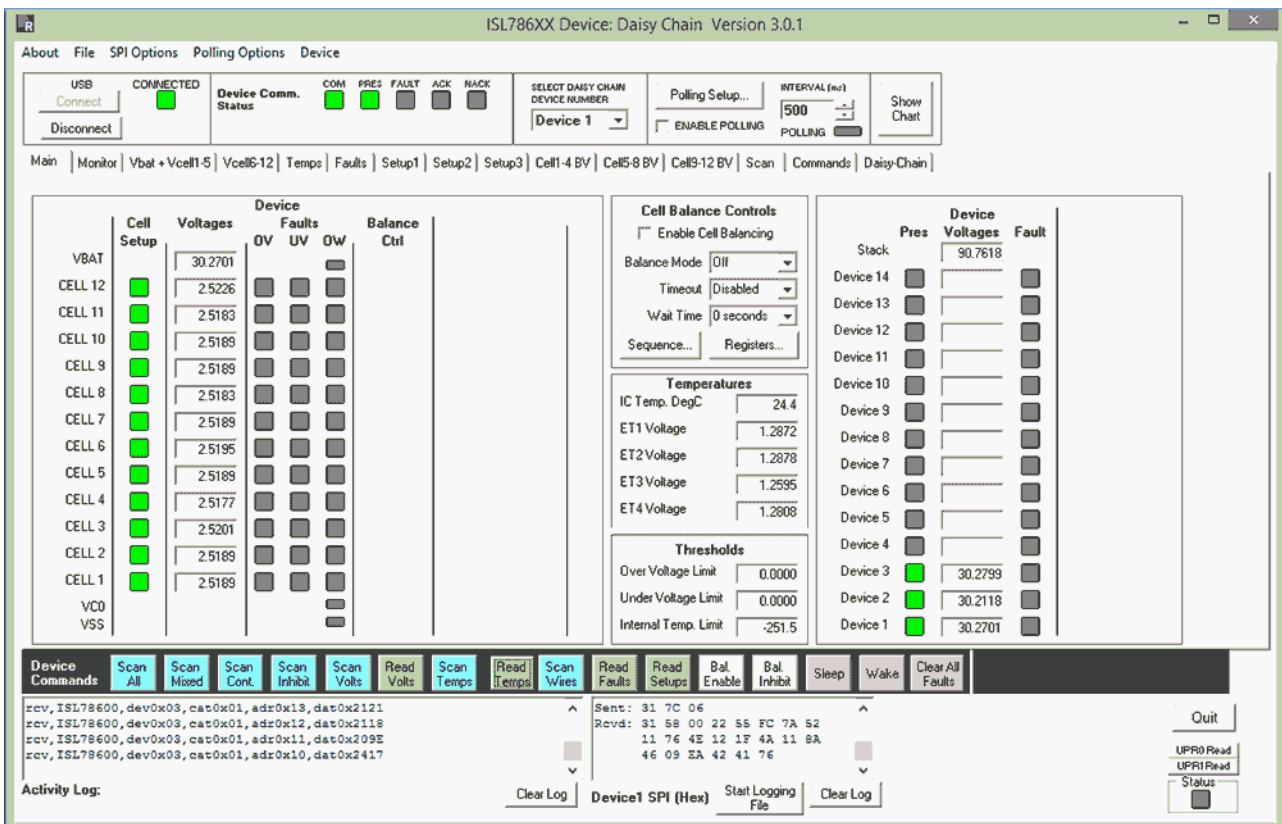

Figure 11. Main GUI Window - Three Cascaded Devices
6. The **Device Commands** buttons along the bottom of the main tab are commands sent to all boards in the system. So, selecting **Scan Volts** then **Read Volts** causes all boards to read the cell voltages and temperatures and update the ISL78600 register values and the GUI display boxes. (Note: These buttons send separate commands to each board. It does not send a Scan All or Read All command), see Figure 11.
The Main window (See Figure 11) of the GUI provides an overview of the various voltages in the battery pack. The voltages and associated fault indicators shown on the left and the temperature values and limits in the middle reflect results of voltage and temperature scans for the device selected in the Select Daisy Chain Device Number box.